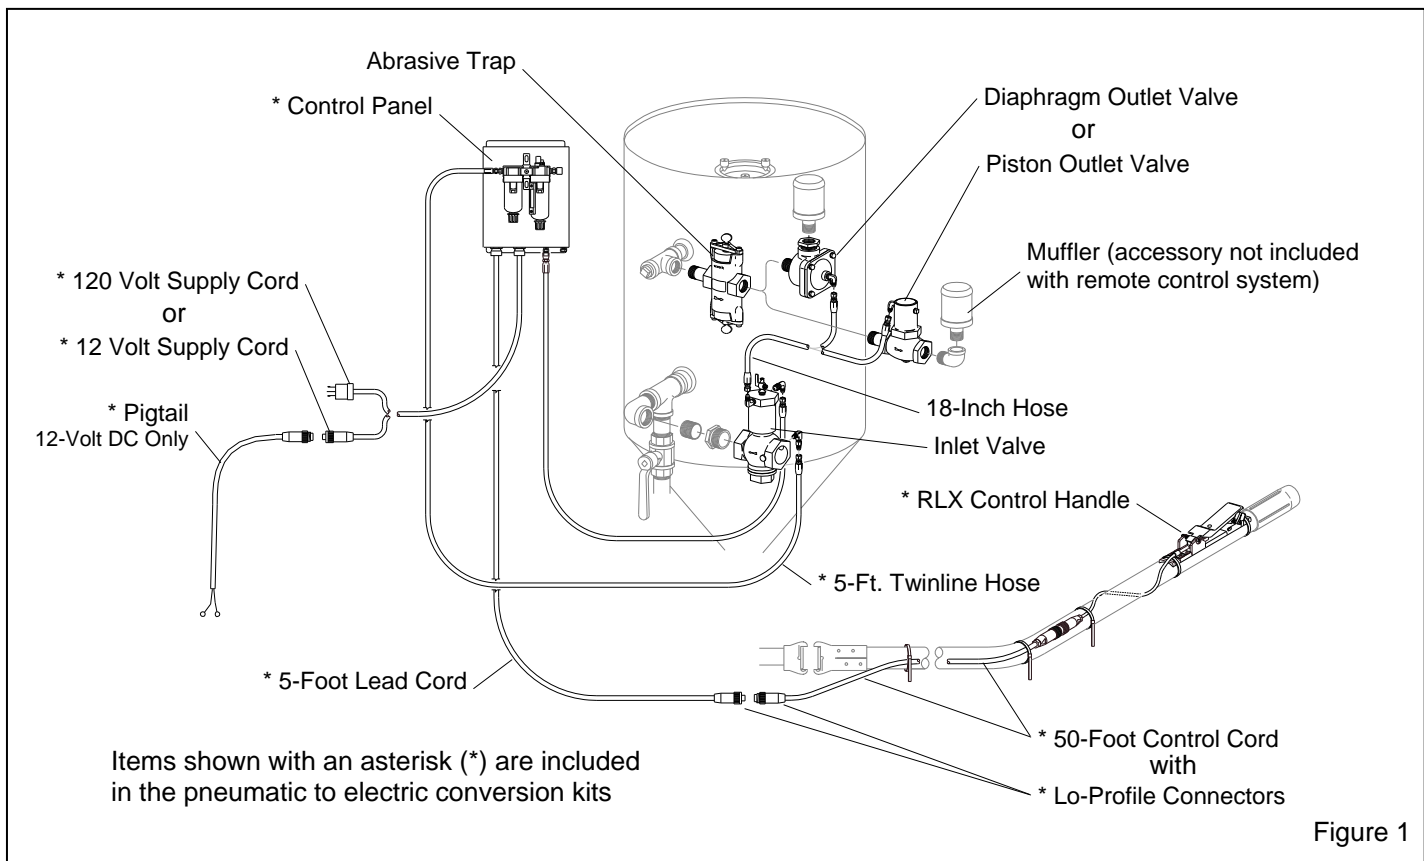

Figure 1
1.3.3 The components of a standard system (no abrasive cut-off) are shown in Figure 1. They include the inlet valve, piston or diaphragm outlet valve (the piston valve is used in most applications, the diaphragm valve is recommended for use with fine mesh or aggressive abrasive), RLX Control Handle, 50-ft. control cord, 5-ft. twinline hose, and an 18-in. long interconnecting hose.
1.4.2 Electric (electric over pneumatic) 100/300 remote controls operate pneumatically (See Figure 1).
2.3 Field Installation: Refer to Figure 1.
2.3.3 Install the abrasive trap on the blast machine as shown in Figure 1. The directional arrow must point away from the machine, and the screen end must face up and clean-out down.
2.3.4.1 Piston outlet valve must have the directional arrow pointing away from the abrasive trap. Attach an elbow and accessory muffler. The muffler must face up and fully vertical as shown in Figure 1.
Clemco supplies an exhaust muffler with all blast machines of 2 cu. ft. capacity and larger. The muffler reduces exhaust noise and prevents abrasive from exhausting upward or sideways into the air. When the blast machine depressurizes, the muffler body pops up to diffuse the air and abrasive. When the machine is fully depressurized, the muffler body drops, permitting trapped abrasive to empty. For the muffler to work properly, it must be installed with the body facing up and fully vertical, as shown in Figure 1.